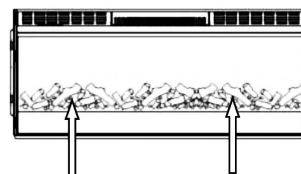

Fig. 5
2. If your fireplace come with log set, remove the log set from the package, put it to the fireplace designed place (also see Fig. 5)